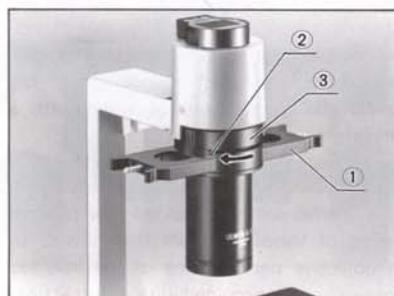

Fig. 16
Insert the phase slider (1) into the slot in the condenser in such a manner that its engraved surface with figures faces upward, and the notched side toward the lamp housing pillar. Rotate the aperture iris diaphragm lever (2) all the way to the left, and insert the green filter provided into the filter mount (3). (Fig. 16)